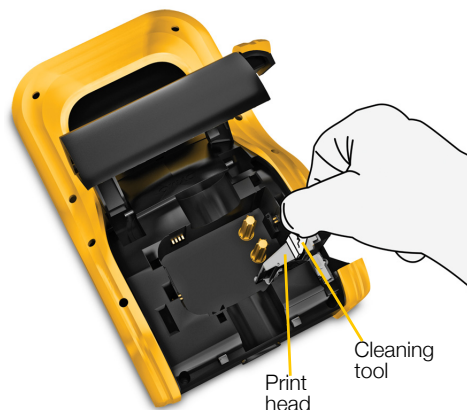

Figure 12
- 4 Gently wipe the felt side of the tool across the print head. See Figure 12.